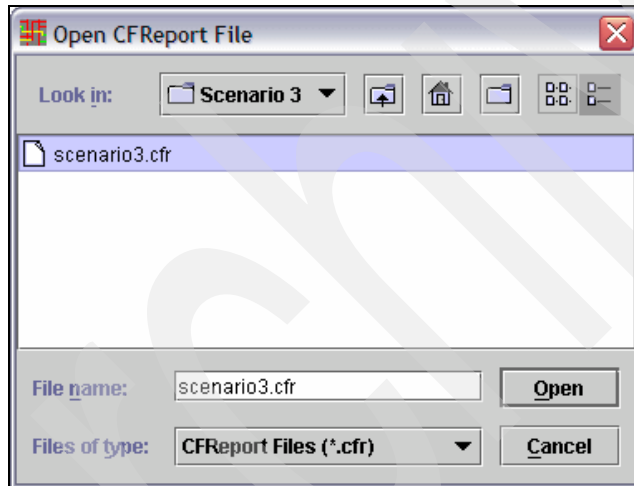

Figure 5-30 CMT - Open CFReport Order file
3. Select the CFReport file on your workstation to import into the CHPID Mapping Tool and click **Open** (Figure 5-30).